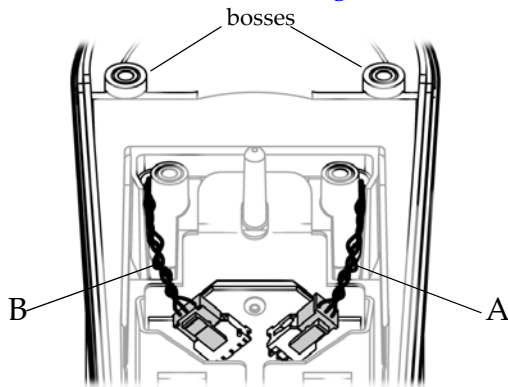

Figure 9-13: Disconnect or Connect Steering Sensor Harnesses
4. Disconnect (2) steering sensor harness connectors at top of EMI filter. Keep retention putty for reuse during installation. While pressing connector locking tabs, gently remove connectors to disconnect. Do not strain harnesses. See Figure 9-13.
5. Route and connect (2) steering sensor harnesses around bosses as shown in Figure 9-13. Proper routing ensures cables will not be pinched when you install console cover. Reinstall retention putty to hold harnesses in place.